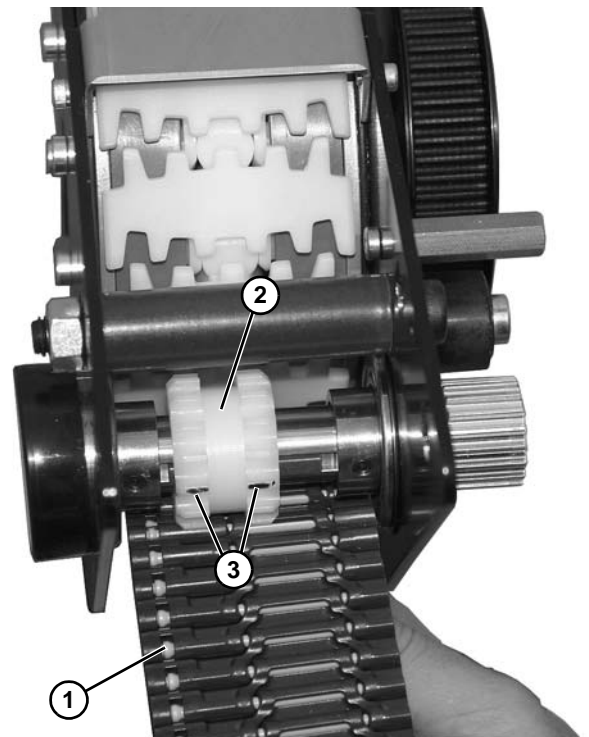

Figure 139
3. Raise belt (Figure 139, item 1) into position, and move gear (Figure 139, item 2) so that cogs line up with belt, as shown.
4. Tighten sprocket with set screws (Figure 139, item 3) in proper alignment with belt (Figure 139, item 1).